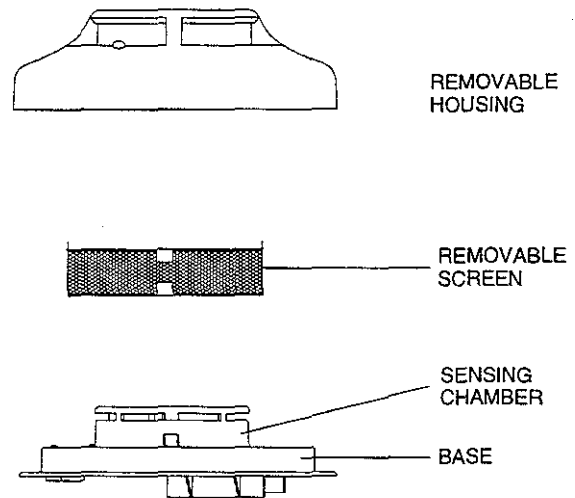

Figure 5. Removal of cover and screen for cleaning
3. Remove the screen by pulling it straight away from the sensing chamber (see Figure 5).